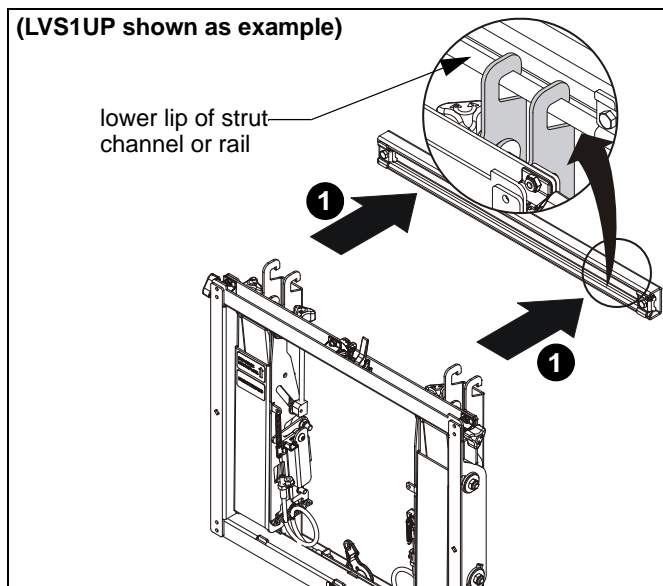

Figure 9
1. Lift mount and hang it on lower lip of upper strut channel or rail (V). (See Figure 9)